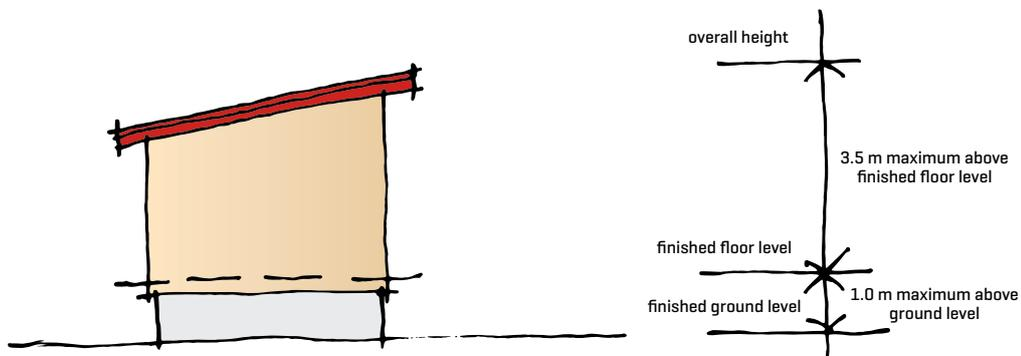

Figure 1. Height restrictions for exempt sleepouts.
- must have a floor level no more than 1 metre above the ground, and the highest point of the structure can be no more than 3.5 metres above the floor level (Figure 1).